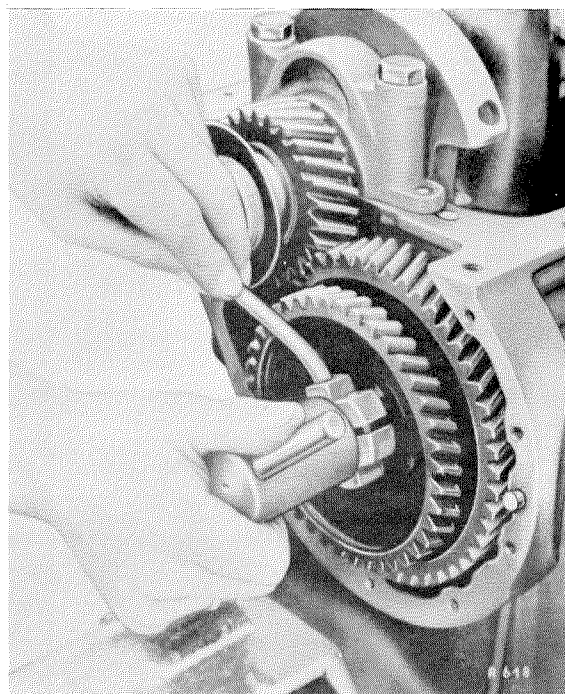

Figure 05-31/1
4. Pull off the crankshaft timing gear with the Extractor Part No. 136 589 08 33 (see Figure 05-31/2).